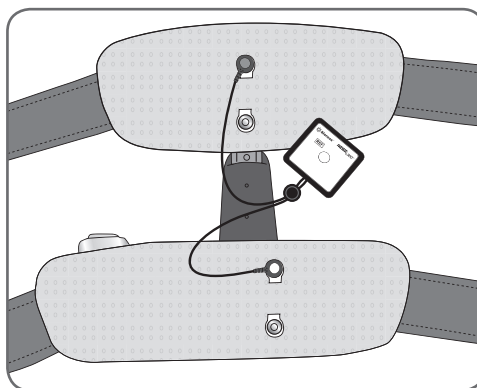

Figure 11-4: Tester connected to the Thigh FS Cuff.
1. Connect the Tester to the proximal snap on the Thigh FS Cuff proximal panel and to the proximal snap on the Thigh FS Cuff distal panel. See Figure 11-4.
1. Connect the Tester to the Thigh FS Cuff. See Figure 11-4.